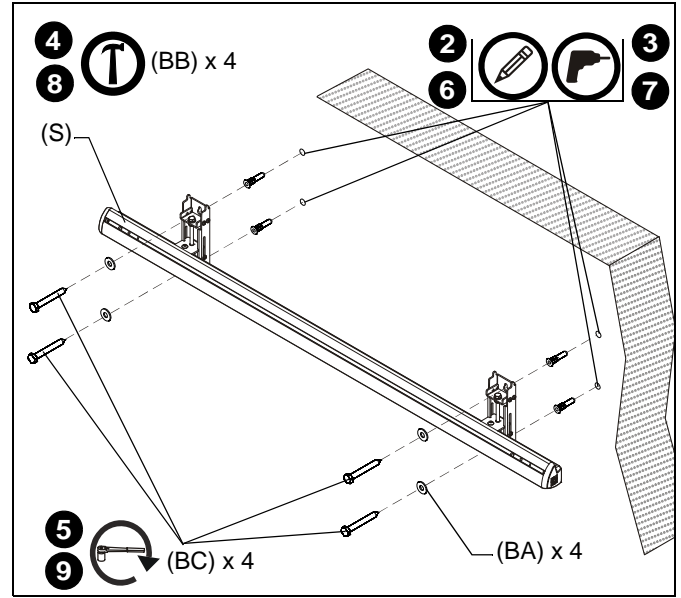

Figure 4
2. Using a level, mark the wall above existing chalkboard through top mounting hole in the wall assembly (S). (See Figure 4)
3. Drill one 1/4" x 2-3/4" pilot hole at each marking. (See Figure 4)
4. Install an anchor (BB) into each pilot hole using a hammer. (See Figure 4)
5. Use two 1/4-20 x 2-1/2" lag bolts (BC) and two 1/4" flat washers (BA) to attach wall assembly (S) to anchors in wall. (See Figure 4)
6. Mark the wall through the lower mounting hole in the wall assembly (S). (See Figure 4)
7. Drill one 1/4" x 2-3/4" pilot hole at each marking through lower mounting hole in wall assembly (S). (See Figure 4)
8. Install an anchor (BB) into each pilot hole using a hammer. (See Figure 4)
9. Use two 1/4-20 x 2-1/2" lag bolts (BC) and two 1/4" flat washers (BA) to attach wall assembly (S) to anchors in wall. (See Figure 4)